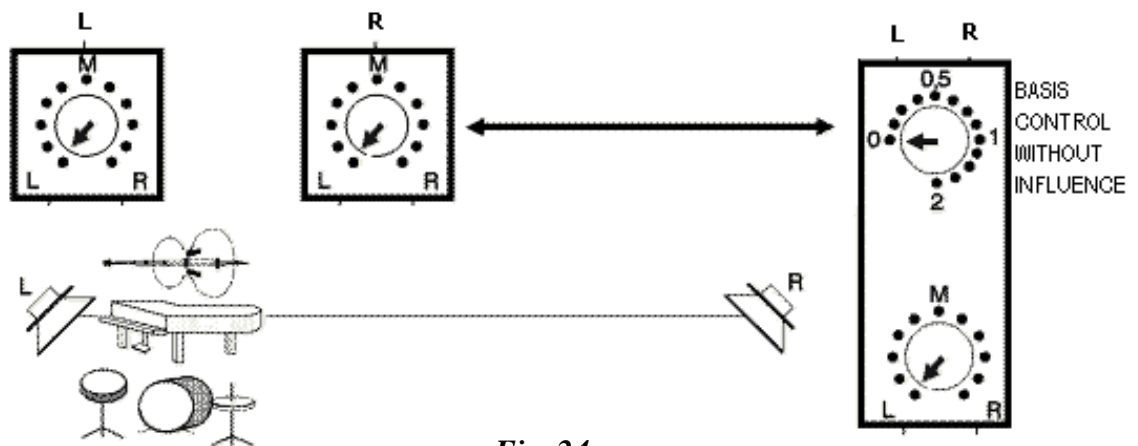

Fig. 24
2. One or several coincident support microphones are set up outside the symmetry plane of the main microphone (Fig. 24). Main and support microphones have to be brought into correspondence as far as basis width and direction is concerned. As in the preceding example, one has to ensure a sufficient back attenuation of the support microphones, otherwise there will be repeated representations of certain sound sources.